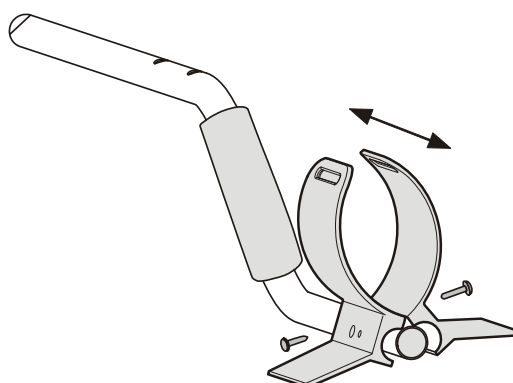

Fig. 5
4. The arm support has two positions, the initial position is that the arm support is in longer location, if your arms are shorter then you can adjust the arm support position. Please release the left and right screw under the arm support when regulation to loosen the left and right arm support, and remove the arm support forward to another position, then tighten the two screws.(Fig.5)